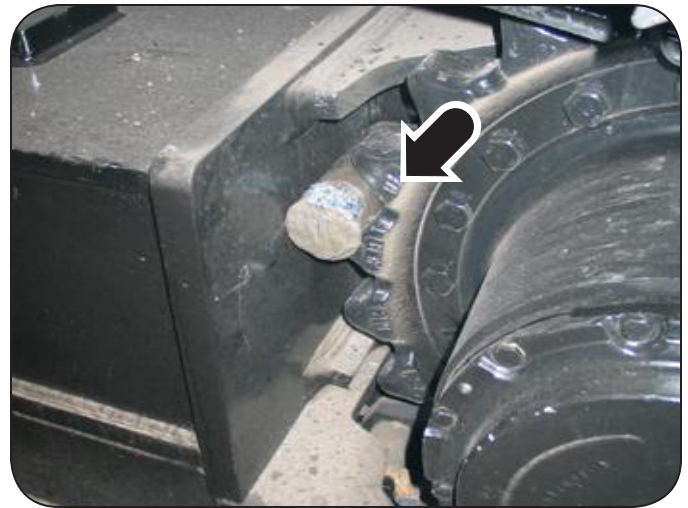

Figure 3: Lock Pin in Sprocket
2. Insert 2 1/2" pin stock in left and right track sprocket. See Figure 3. This will prevent the machine from moving.